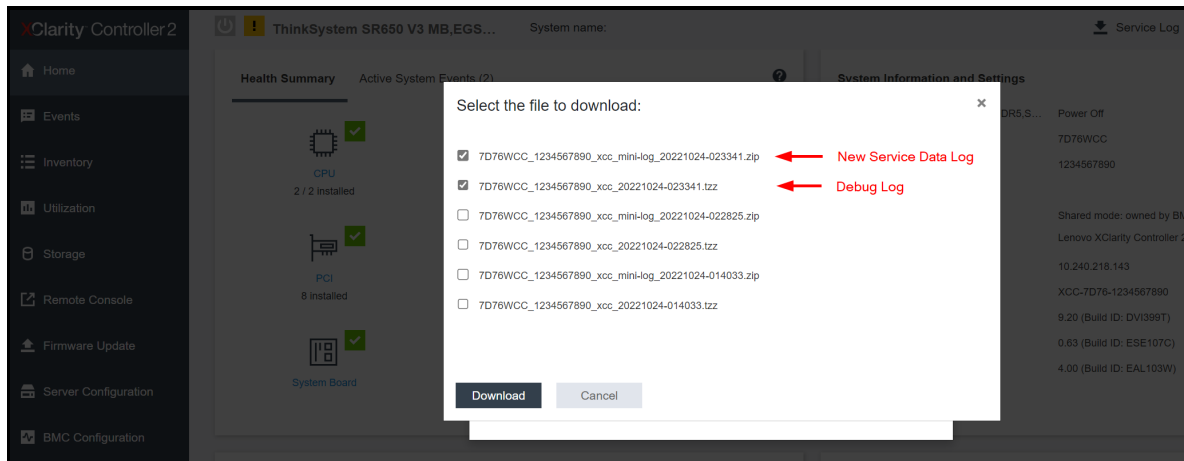

Figure 1. XCC2 download dialog showing the new service data log and the debug log (aka FFDC)
2. At the Home page, look for the Quick Actions card as illustrated in *Figure 1*.